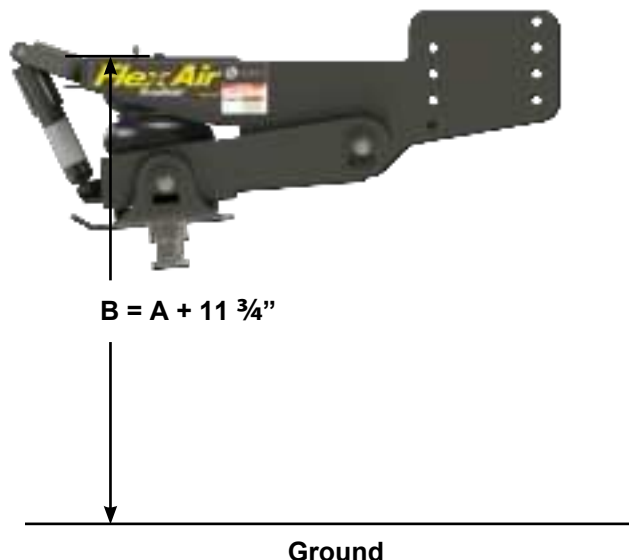

Fig.3
6. Add 11 3/4" to dimension A. When installing the new pin box, measure from the ground up to the flat plate of the upper jaw of the pin box. Once the new pin box is aligned, that measurement should be equal to the measurement taken in step 2, plus 11 3/4" (**Dimension B, Fig.3**).